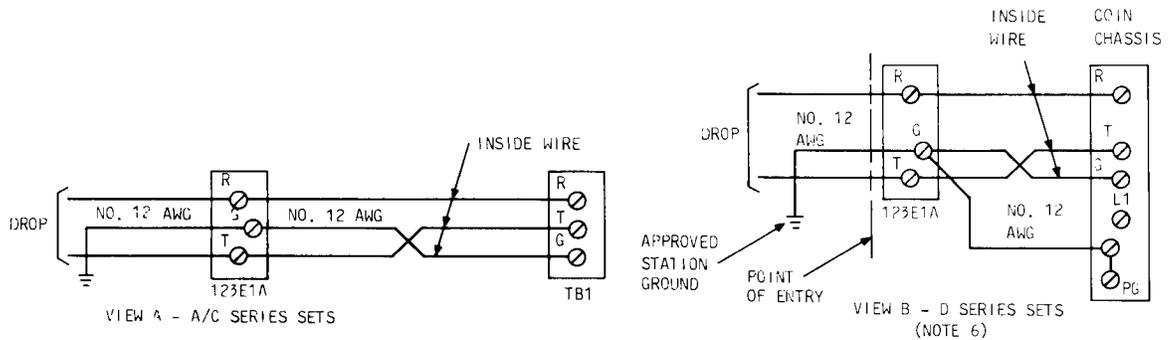

Fig. 18—Grounding Requirements
- (e) When required install ground rod before pouring concrete, leaving 4 to 5 inches above top of base. Refer to Fig. 18 to determine if ground rod is required.